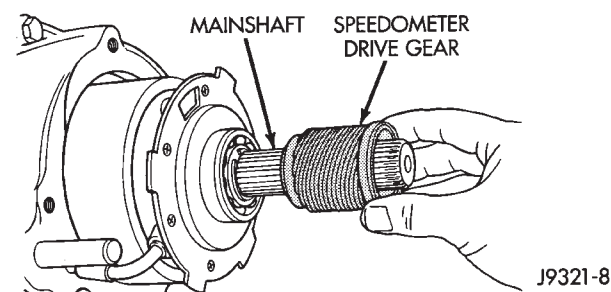

Fig. 63 Speedometer Drive Gear Installation
(41) Install speedometer drive gear (Fig. 63).